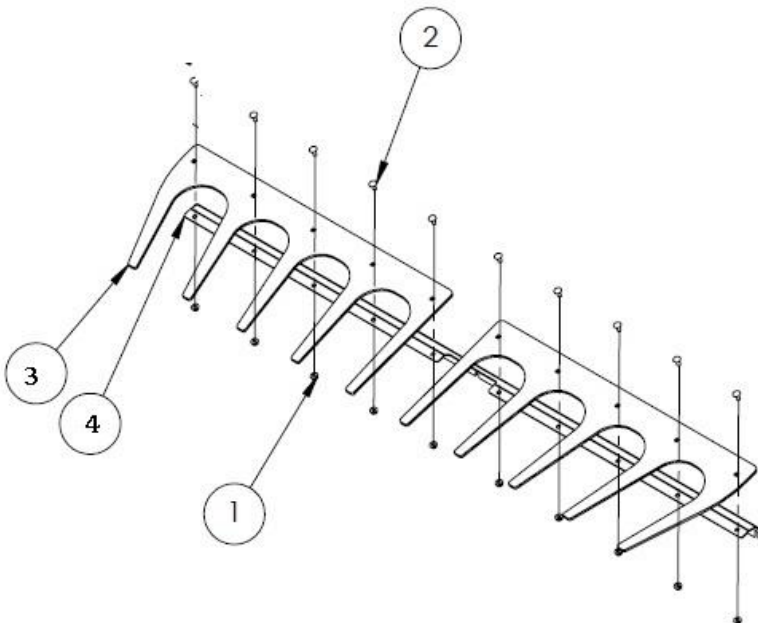

Figure 1
- Mount the Crop flow slides to the mounting plate using the ten 5/16" X 3/4" Carriage bolts. Install the nuts as shown in figure 1. Tighten the nuts to 13 ft. lbs. (17 Nm).